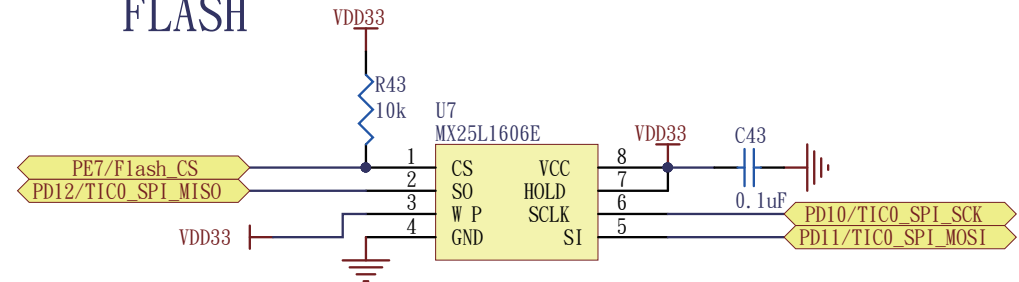

Figure 18. SD card, Flash, RS-232 and EEPROM
- Figure 18 includes the SD card, Flash, RS-232 and EEPROM.